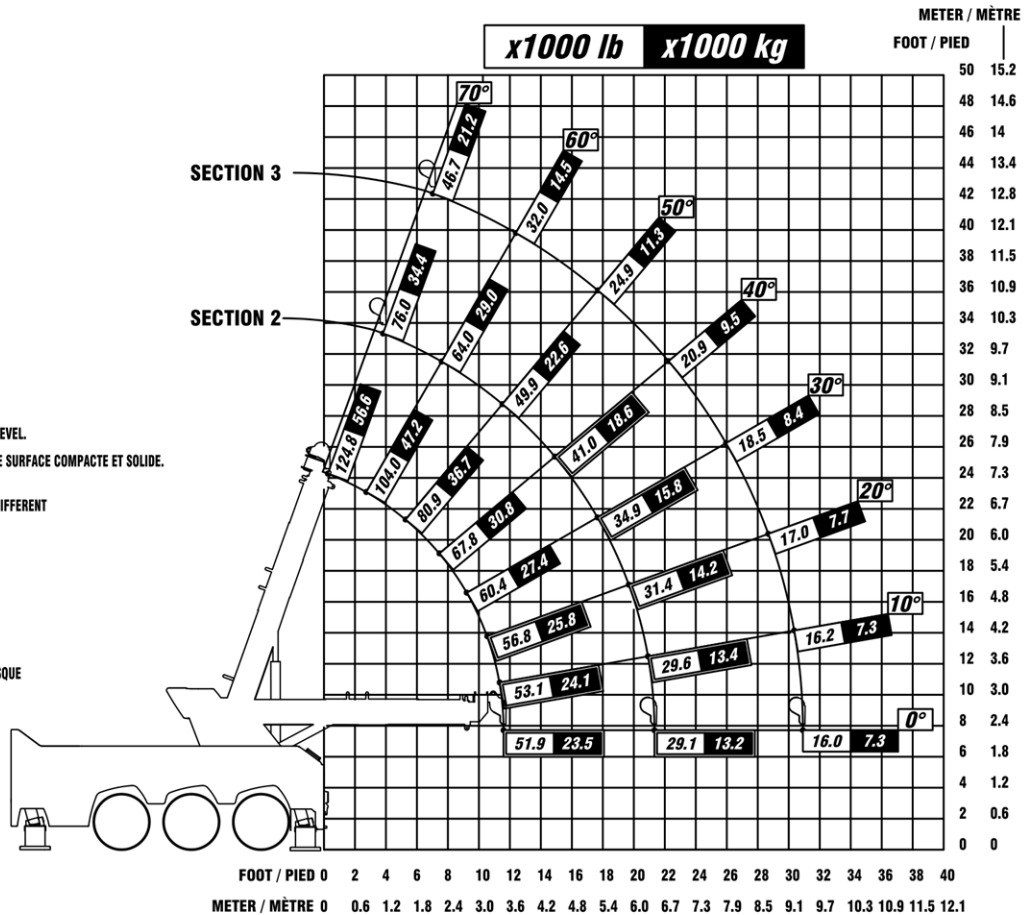

FIGURE 17 – LIFTING CAPACITY OF THE CSR65 FROM THE REAR
- Figure 17 — Lifting Capacity of the CSR65 from the Rear